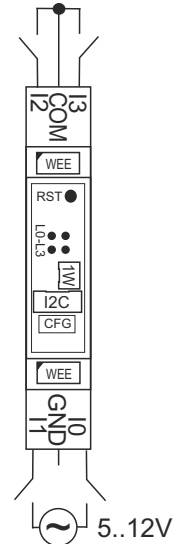

Fig 1. Diagram of connection coupling
1. Note of the card PIN and Serial Number (SN) device (Both located on the housing of the device)
2. Connect the cables Com, Gnd, and IO..I3 according to Fig 1